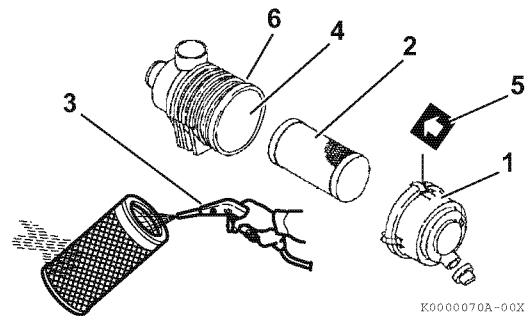
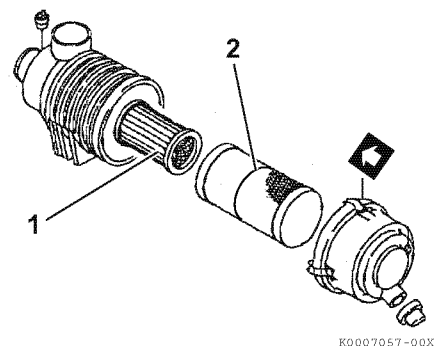

Figure 5-11
Figure 5-12
Note that a typical air cleaner is shown in **Figure 5-11** and **Figure 5-12** for illustrative purposes only.
1. Unlatch and remove the air cleaner cover (**Figure 5-11, (1)**).
2. Remove the element (**Figure 5-11, (2)**) (outer element only if equipped with two elements).
3. Blow air (**Figure 5-11, (3)**) through the element from the inside out using 42 to 71 psi (0.29 to 0.49 MPa; 3.0 to 5.0 kgf/cm²) compressed air to remove the particulates. Use the lowest possible air pressure to remove the dust without damaging the element.
If the air cleaner is equipped with a double element, **ONLY** remove and replace the inner element (**Figure 5-12, (1)**) if the engine lacks power or the dust indicator actuates (if equipped) after replacing or cleaning the outer element.
6. Install the element into the air cleaner case (**Figure 5-11, (4)**).
If there is a red line (**Figure 5-12, (2)**) on the outer element, insert the element until the red line and the end of the air cleaner housing align.
7. Install the air cleaner cover making sure you match the arrow (**Figure 5-11, (5)**) on the cover with the arrow on the case (**Figure 5-11, (6)**).
Replace the air cleaner element (**Figure 5-11, (2)**) every 500 hours even if it is not damaged or dirty.
When replacing the element, clean the inside of the air cleaner case (**Figure 5-11, (4)**).
If the air cleaner is equipped with a double element, only remove and replace the inner element (**Figure 5-12, (1)**) if the engine lacks power or the dust indicator actuates (if equipped). This is in addition to replacing the outer element.